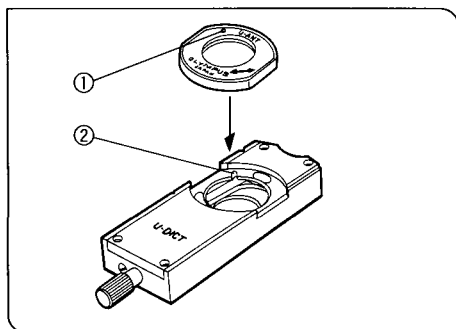

Fig. 94
(Figs. 94 – 99)
2. Align the analyzer (U-ANT) ① and place it into the opening in the transmitted light differential interference contrast slider (U-DICT) ②. (Fig. 94)